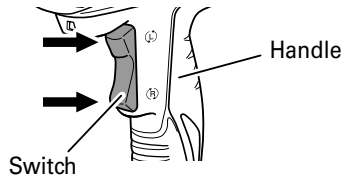

Fig. 8
The switch in this machine functions as a motor switch and rotational direction selector switch. When the switch is set to (R) indicated on the handle, the motor rotates clockwise to tighten the bolt. When the switch is set to (L), the motor rotates counterclockwise to loosen the bolt. When the switch is released, the motor stops. (Fig. 8)